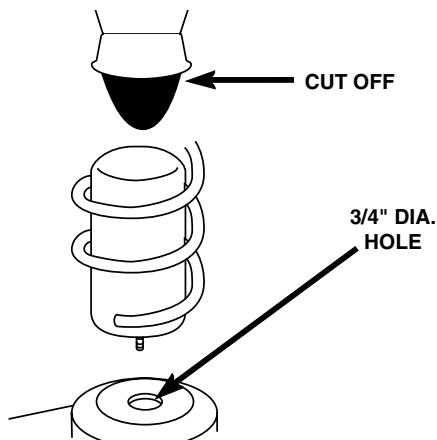

Figure 3
2. Center punch and drill a 3/4" diameter hole in the lower spring seat. Remove all burrs and sharp edges (Figure 3). NOTE: Due to the offset spring seat, it may be helpful to set the spring, with the bag installed, on vehicle to see where stem will contact lower spring seat. This is where the hole should be drilled.
3. Cut off exposed portion of rubber jounce bumper within 1/2" of metal cup (Figure 3).